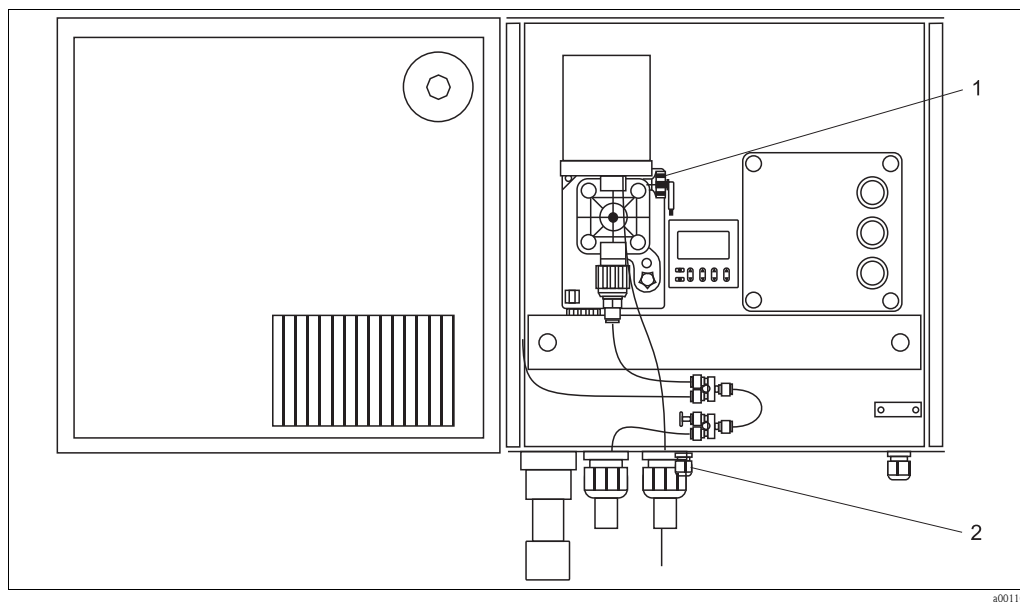

Fig. 21: Control box
1. Remove the drain plug from the hose gland for the vent hose (→ Fig. 21, item 2).
2. Push one end of the supplied vent hose (PVC 6/4 mm) up through the hose gland and fit it on the hose nozzle of the vent screw (item 1).